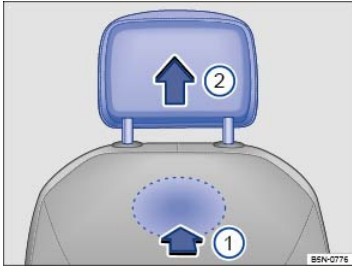

Fig. 81 Removing the front head restraints.
- Locate the circular button on the inside of the seat ⇒ Fig. 81 (in the blue oval area ①, not visible) and press it firmly in the direction of the arrow. This requires force.
- While pressing button ①, pull the head restraint out completely in the direction of the arrow ⇒ Fig. 81②.